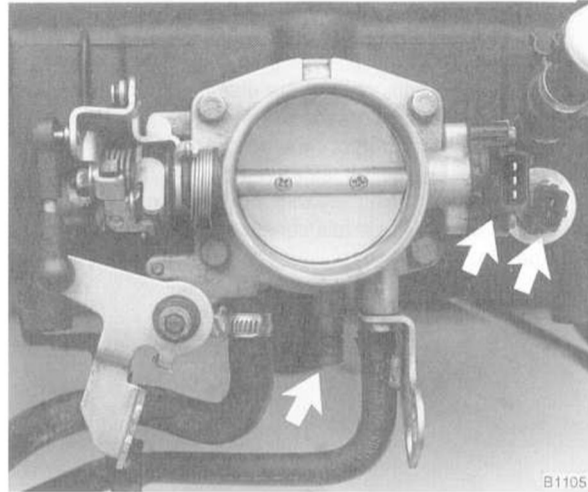

Fig. 12. Coolant hose, throttle switch connector and intake air temperature sensor connector (arrows) to be removed or disconnected.
14. Label and disconnect the coolant hose from the throttle housing. Disconnect the connectors from the throttle switch and the intake air temperature sensor. See Fig. 12.